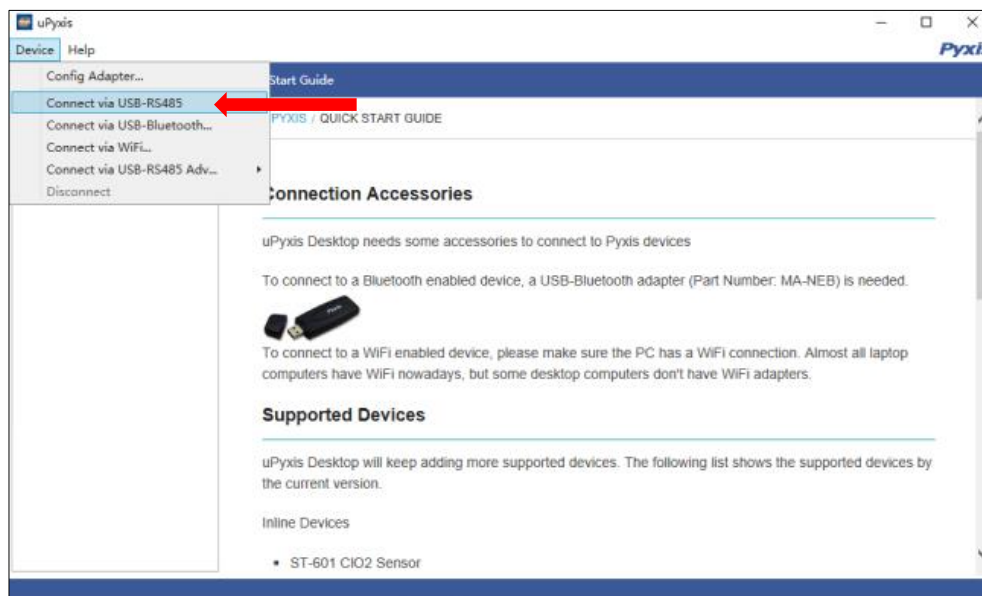

Figure 36. - Connect to RT-100 via USB-RS485 option
- 6) Select Connect via USB-RS485 (Figure 36).